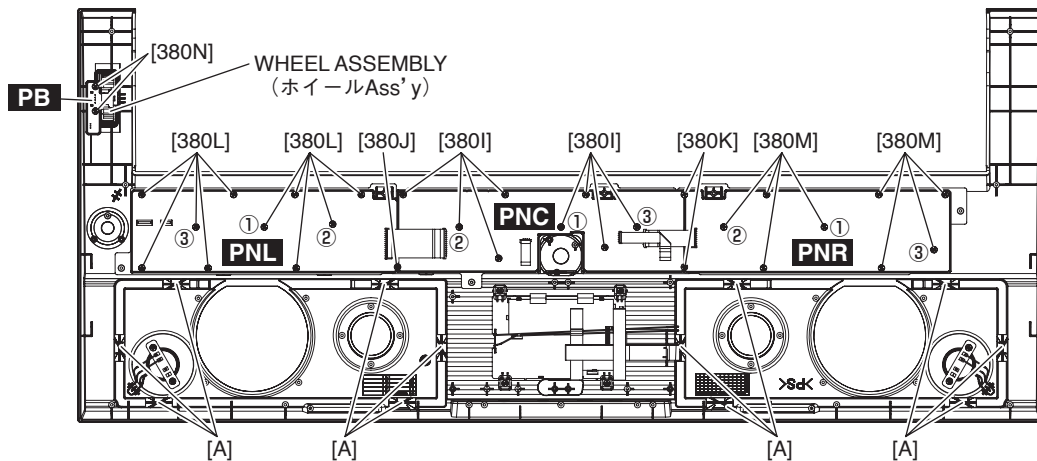

Fig. 6 (図6)
- 9-5 Remove the eight (8) screws marked [380I] and the one (1) screw marked [380J]. After loosening the two (2) screws marked [380K], the PNC circuit board can be removed. (Fig. 6)
\* **When installing the PNC circuit board, tighten the screws in the order of ① ~ ③, and then tighten the remaining screws. (Fig. 6)**
- 10-3 Remove the ten (10) screws marked [380L]. After loosening the one (1) screw marked [380J], the PNL circuit board can be removed. (Fig. 6)
\* **When installing the PNL circuit board, tighten the screws in the order of ① ~ ③, and then tighten the remaining screws. (Fig. 6)**
- 9-5 [380I]のネジ8本と[380J]のネジ1本を外し、[380K]のネジ2本を緩めて、PNCシートを外します。(図6)
- ※ PNCシートを取り付けるときは、①～③の順でネジを締めてから他のネジを締めてください。(図6)
- 10-3 [380L]のネジ10本を外し、[380J]のネジ1本を緩めて、PNLシートを外します。(図6)
- ※ PNLシートを取り付けるときは、①～③の順でネジを締めてから他のネジを締めてください。(図6)
- 11-3 Remove the eight (8) screws marked [380M]. After loosening the two (2) screws marked [380K], the PNR circuit board can be removed. (Fig. 6)
\* **When installing the PNR circuit board, tighten the screws in the order of ① ~ ③, and then tighten the remaining screws. (Fig. 6)**
- 12-3 Remove the two (2) screws marked [380N]. The PB circuit board can then be removed with the wheel assembly attached. (Fig. 6)
- 14-2 Align the six (6) [A]s the groove in the upper case assembly and remove the SP grille. (Fig. 1, Fig. 6)
- 11-3 [380M]のネジ8本を外し、[380K]のネジ2本を緩めて、PNRシートを外します。(図6)
※ PNRシートを取り付けるときは、①～③の順でネジを締めてから他のネジを締めてください。(図6)
- 12-3 [380N]のネジ2本を外して、ホイールAss'yが付いた状態でPBシートを外します。(図6)
- 14-2 [A]の6箇所を、上ケースAss'yの溝と平行にして、SPグリルを外します。(図1、図6)